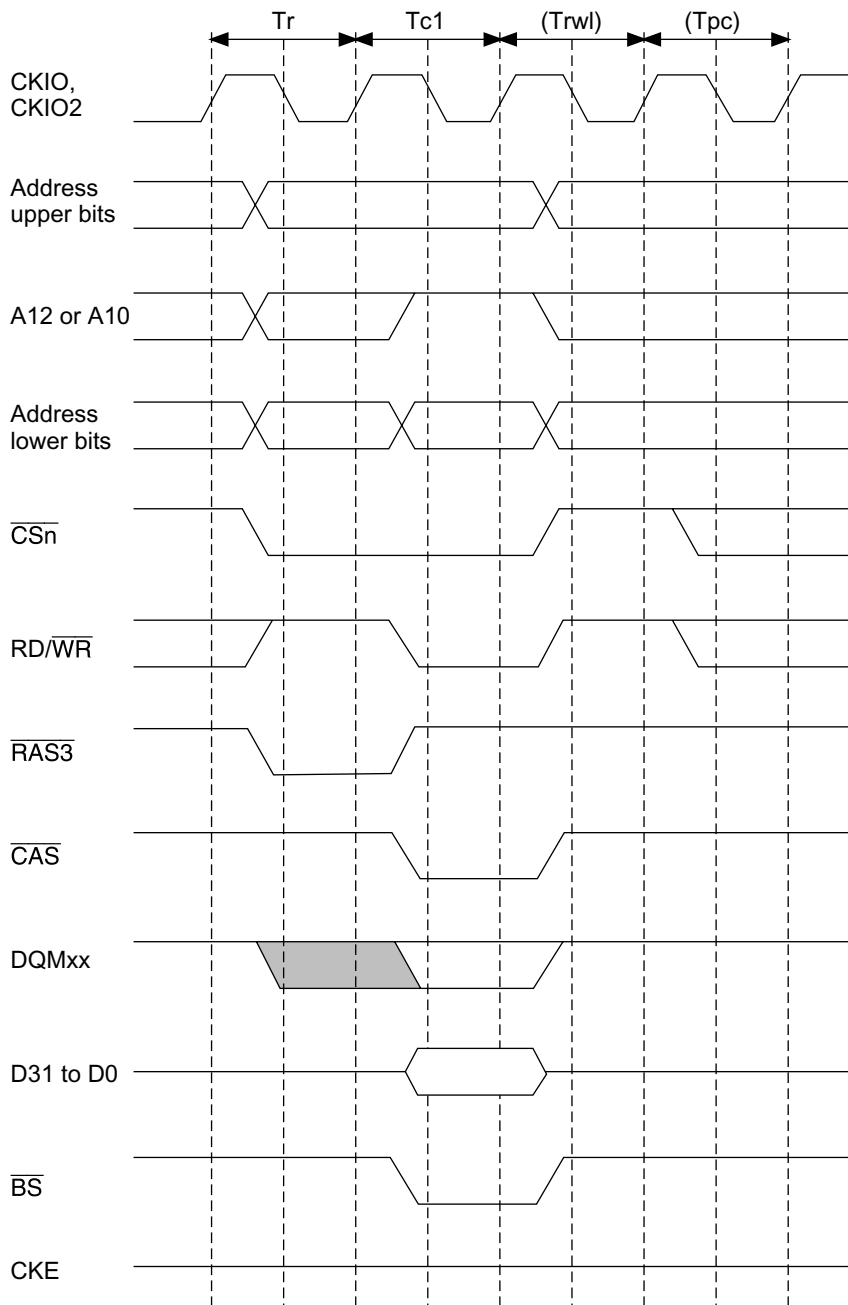

**Figure 12.17 Basic Timing for Synchronous DRAM Single Write**
**Single Write:** The basic timing chart for write access is shown in figure 12.17. In a single write operation, following the  $T_r$  cycle in which ACTV command output is performed, a WRITA command that performs auto-precharge is issued in the  $T_{c1}$  cycle. In the write cycle, the write data is output at the same time as the write command. In case of the write with auto-precharge command, precharging of the relevant bank is performed in the synchronous DRAM after completion of the write command, and therefore no command can be issued for the same bank until precharging is completed. Consequently, in addition to the precharge wait cycle,  $T_{pc}$ , used in a read access, cycle  $Trwl$  is also added as a wait interval until precharging is started following the write command. Issuance of a new command for the same bank is postponed during this interval. The number of  $Trwl$  cycles can be specified by the TRWL bit in MCR.